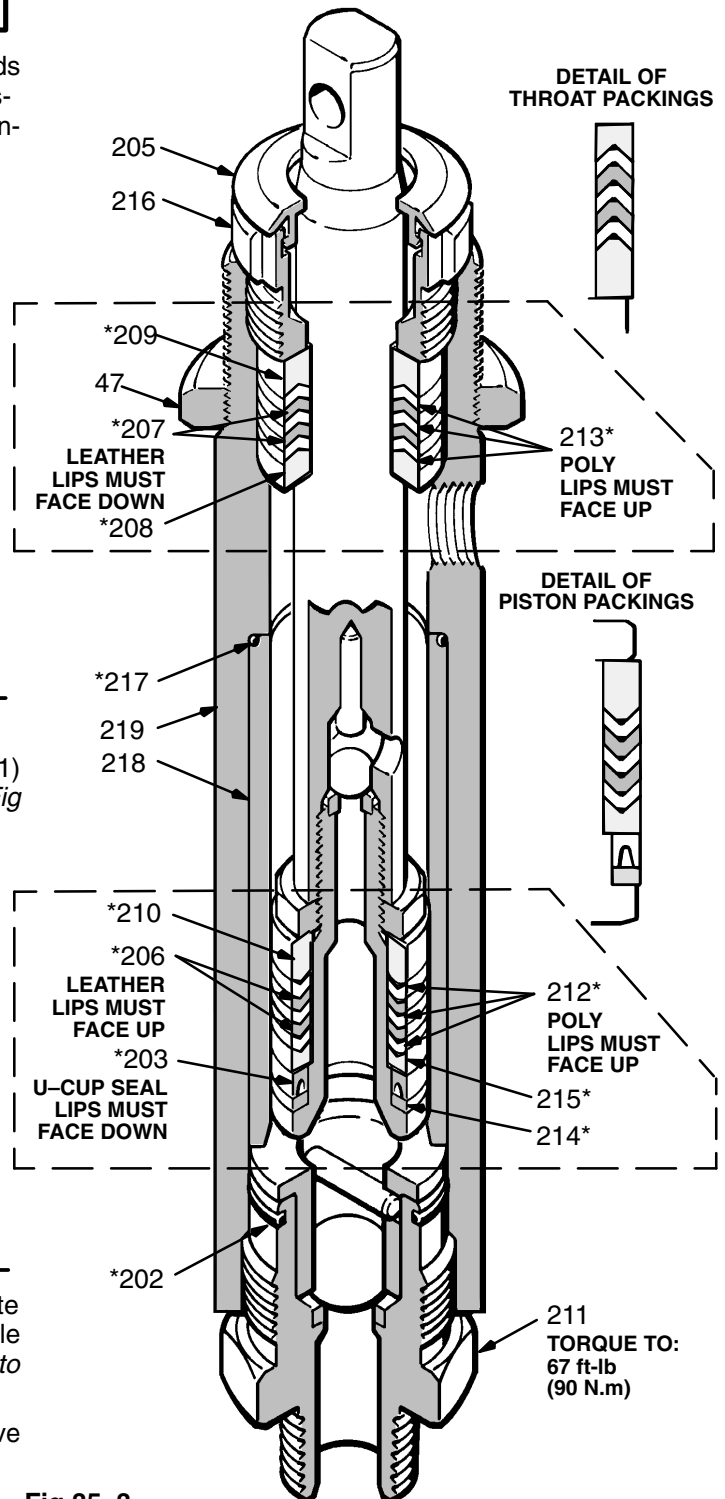
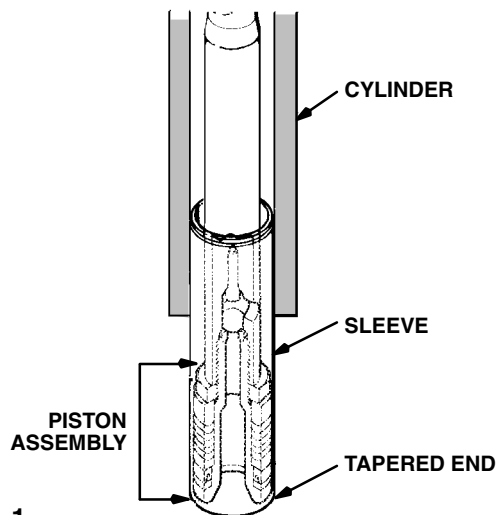

Fig 35-3
Fig 36-1
3. Remove the packing nut (216) and plug (205). *Refer to Fig 35-3.*
4. Use a plastic mallet to tap the piston rod (224) down, then pull the rod out through the bottom of the cylinder.
5. Remove the throat packings (207, 213) and glands (208, 209). *Refer to Fig 35-3.*
8. One at a time stack the male gland (208*), alternate the packings (213*,207*), and then install the female gland (219) into the top of the cylinder (219). Refer to Fig 35-3.
9. Install the packing nut (216) and plug (205), but leave loose for now. Refer to Fig 35-3.
NOTE: The tapered end of the sleeve is the bottom of it. Refer to Fig 36-1.
11. Place a new o-ring (217*) firmly in the cylinder groove. Refer to Fig 35-3.
12. Slide the sleeve/piston rod assembly **INT O THE BOTTOM OF THE CYLINDER** . This is to prevent packing damage during reassembly . *Refer to Fig 36-1.*
13. Screw down the cylinder locknut (31) until it is finger tight at the bottom of the external cylinder threads.
14. Place flats of the intake valve (223) in a vise. Install a new o-ring (202*). Screw the pump cylinder into the valve. Torque to 67 ft-lb (90 N.m). *Refer to Fig 35-3.*